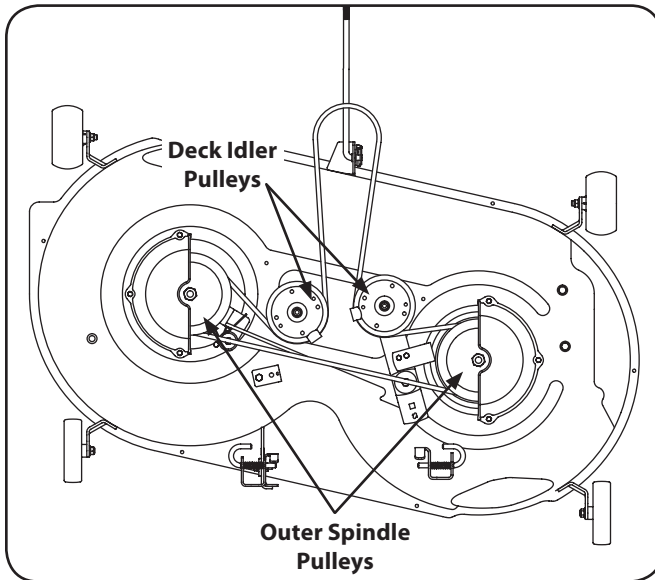

Figure 7-10
5. **On 46" Decks:** Install the new belt by routing it around the two outer spindle pulleys as shown in Figure 7-10.
6. Then route the belt around the two deck idler pulleys as shown in Figure 7-10.